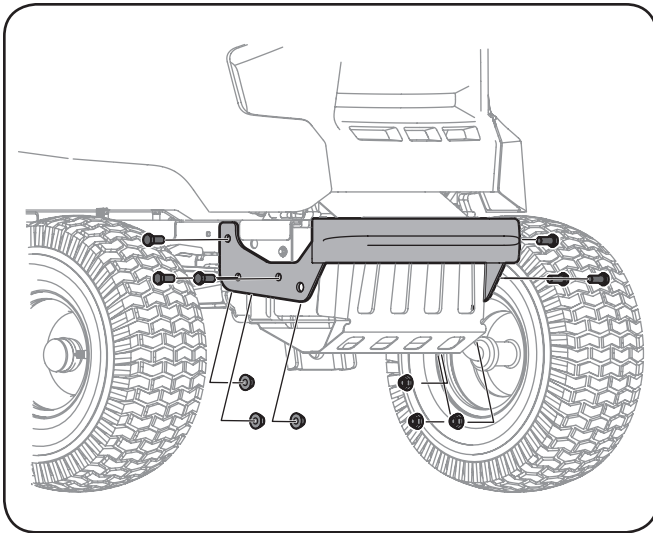

Figure 3-1
- Using two $\frac{5}{16}$ " wrenches, secure the bumper to the tractor frame with six hex screws and flange lock nuts. See Figure 3-1.